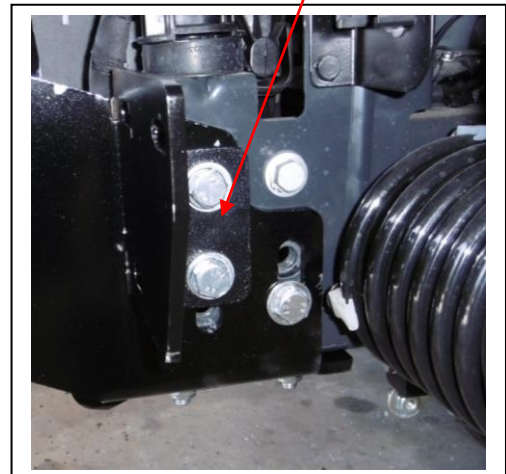

Figure 8
9. Position the passenger side steel mounting bracket (supplied) using one M12 x 40 x 1.75mm bolt, flat washer, spring washer and nut through the rear hole. In front holes use two M12 x 50 x 1.75 bolt, flat washers, spring washer, bolt washer plate and nut (supplied). Fasten under the steel mounting bracket using two M12 x 1.5 x 40 bolts, flat washers, spring washers, large bolt washer and nuts (supplied) **FINGER TIGHTEN ONLY. See figure 8.**